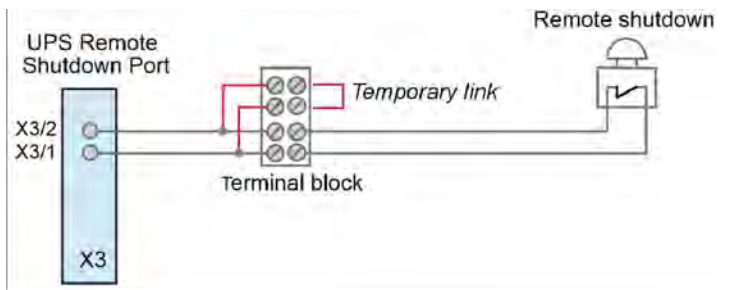

Figure 9.7 Remote emergency stop cabling
The remote shutdown circuit comprises a normally-closed switch connected between terminal X3/1 and X3/2 (see Figure 9.7).
2. Connect the cable as shown in Figure 9.7.